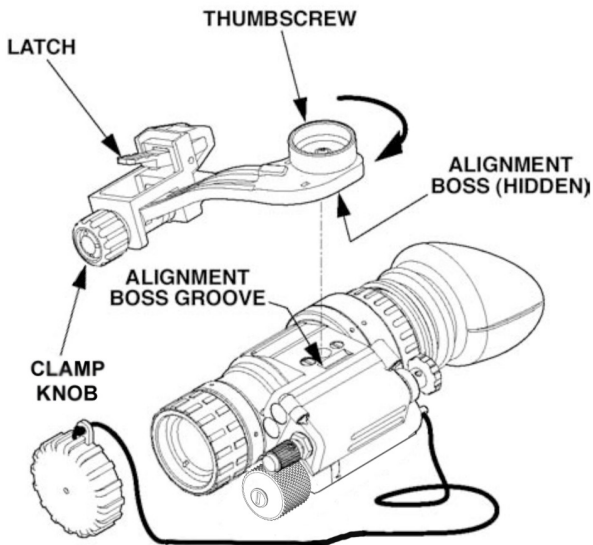

Figure 2-3 Head/Helmet Mount Adapter Installation
1. Align the thumbscrew with the threaded hole and tighten as shown in Figure 2-3.